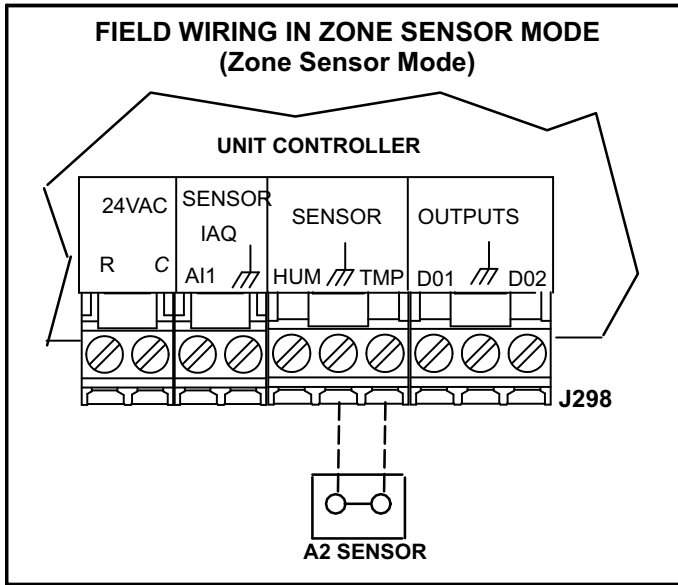
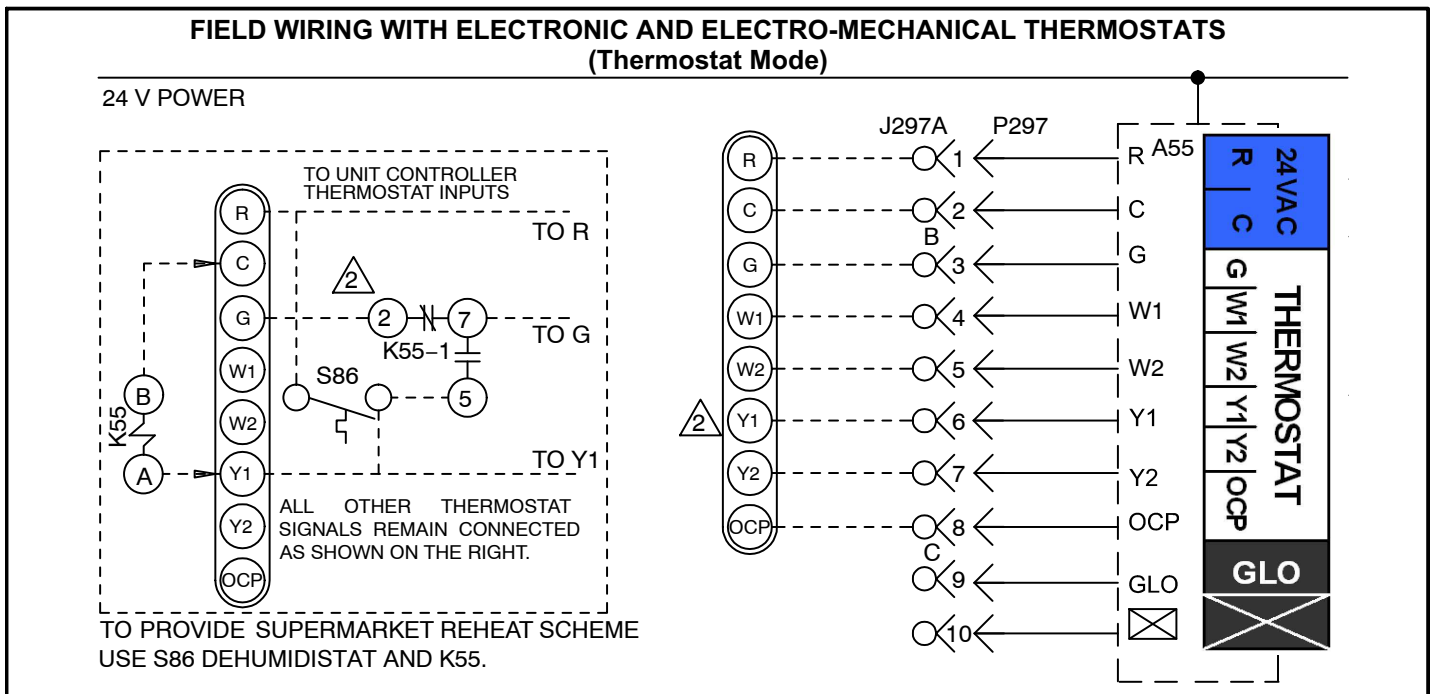
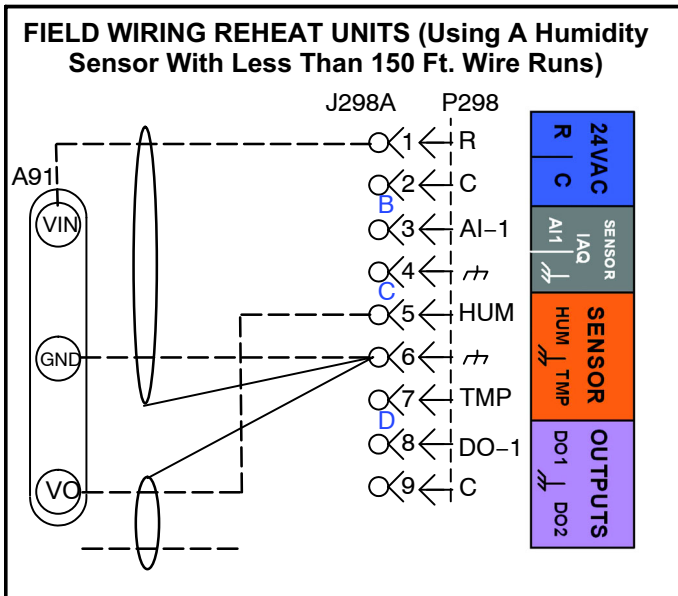
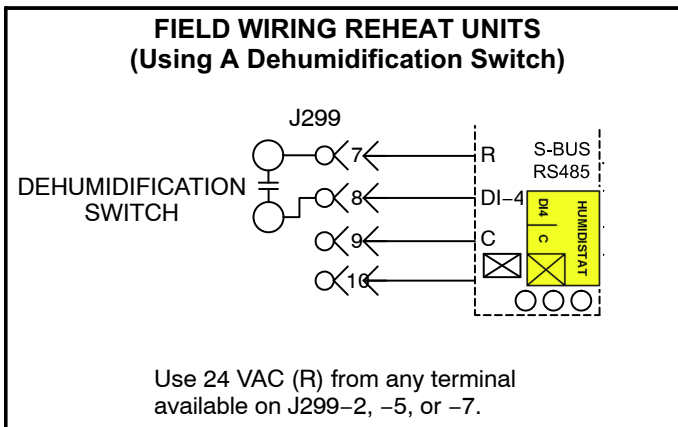

FIGURE 16
FIGURE 17
FIGURE 18
FIGURE 20
- 4- Wire as shown in figure 17 for electro-mechanical and electronic thermostats. If using other temperature control devices or energy management systems see instructions and wiring diagram provided by manufacturer.
The Unit Controller will operate heating and cooling based on the Unit Controller internal setpoints and the temperature from the A2 zone sensor. An optional Network Control Panel (NCP) can also be used to provide setpoints. A thermostat or return air sensor can be used as a back-up mode. Make zone sensor wiring connections as shown in figure 16.
- 2- Make wiring connections as shown in figure 17 for Thermostat Mode or figure 16 for Zone Sensor Mode. In addition, connect either a humidity sensor or a dehumidification input. See figure 18 or 19 for humidity sensor wiring or figure 20 for dehumidification input wiring.
Use two separate shielded cables containing 20AWG minimum, twisted pair conductors with overall shield. Belden type 8762 or 88760 (plenum) or equivalent. Connect both cable shield drain wires to the Unit Controller as shown in figure 18.
Use two separate shielded cables containing 18AWG minimum, twisted pair conductors with overall shield. Belden type 8760 or 88760 (plenum) or equivalent. Connect both cable shield drain wires to the Unit Controller as shown in figure 18.